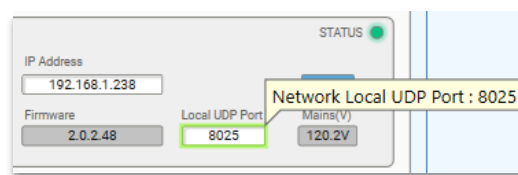

Figure 4 – Screenshot of Local UDP Port text field.
4. Enter a local UDP Port between 1024 and 49151. If controlling multiple amplifiers, each instance of the plug-in must have a different local UDP Port (Figure 4).